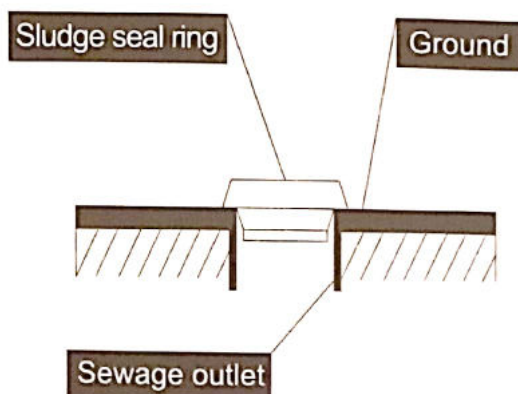

Figure 2
2. Fix the sludge seal ring to the sewage outlet and do the sealing as Figure 2